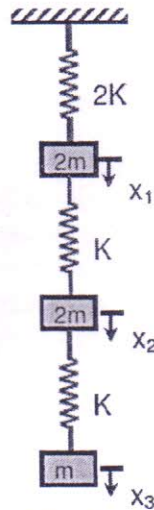

Fig. 9 (a)
9. a) Find first natural frequency and modal vector of the system shown in the Fig. 9(a) using matrix iteration method. Use flexibility influence coefficients.